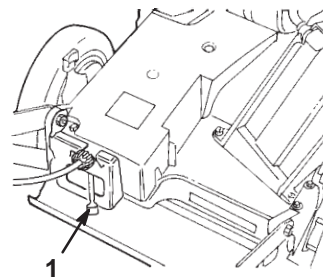

Figure 11
- Move the ground speed control to the (**Neutral**) position (Fig. 11).
The lawn mower has 3 ground speeds. **1** is slow, **2** is medium, and **3** is fast. The ground speed control is located at the rear of the belt cover (Fig. 11).